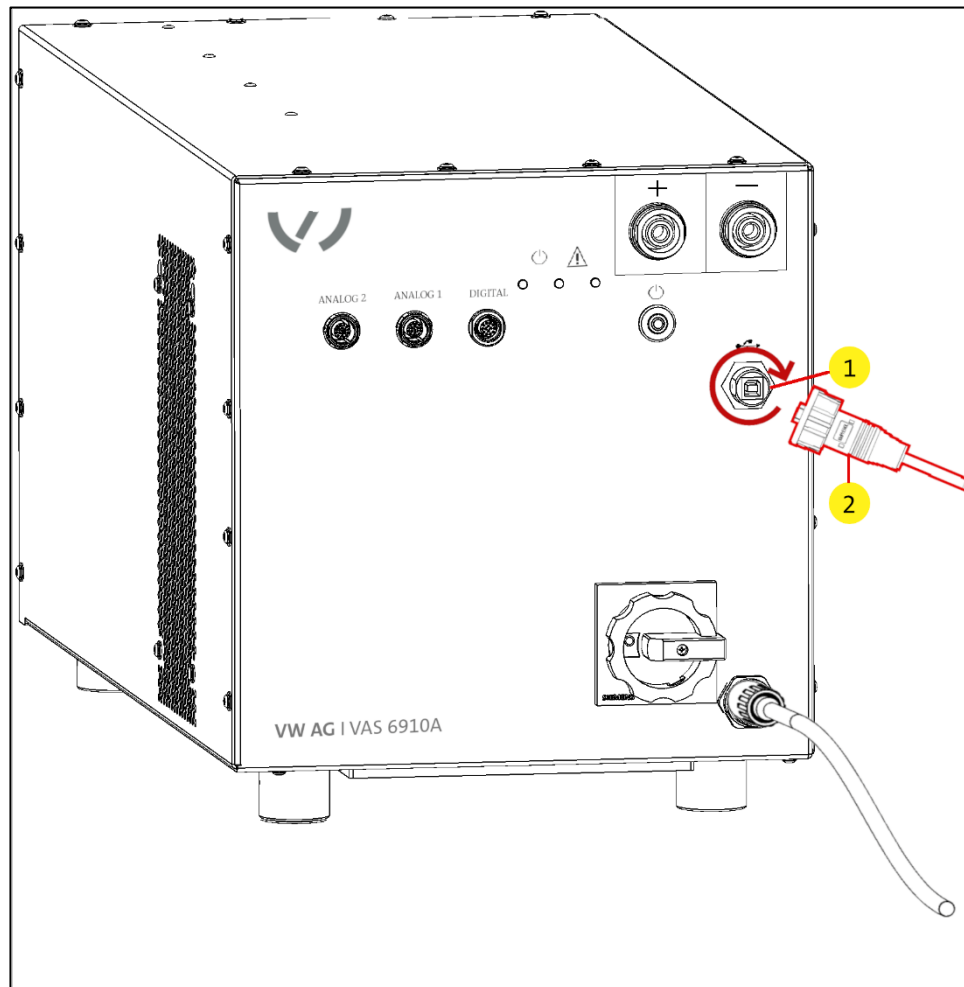

Figure 3: Plugging in the USB connecting cable
4. Plug the USB connecting cable VAS 611 001 (Figure 3/position 2) into the USB port (Figure 3/position 1) and secure it with the screw lock (see Figure 3).